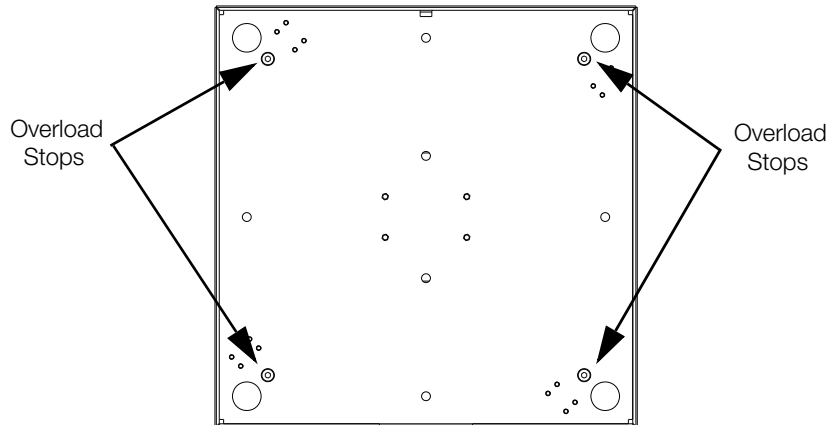

Figure 2-1. Overload Stops to be Removed (4)
2. Remove the four overload stops on the underside of the scale, shown in Figure 2-1.